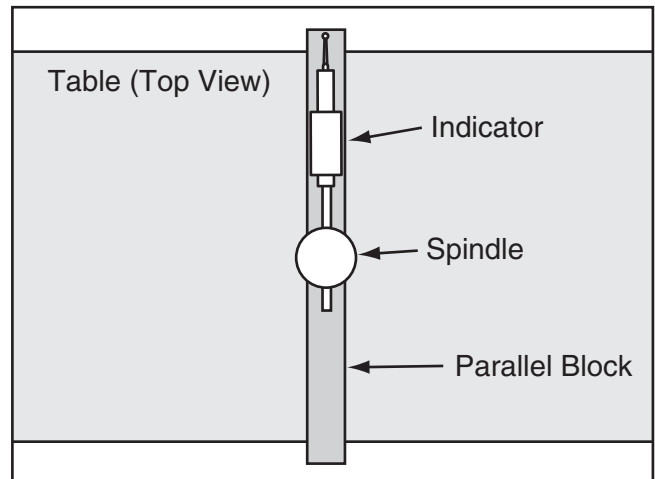

Figure 79. Parallel block and indicator positioned for the Y-axis measurement (top view).
- Place parallel block directly under spindle and across width of table, as illustrated in **Figure 79**.
9. Rotate spindle so indicator point rests on parallel block, as illustrated in **Figure 79**, then zero dial.